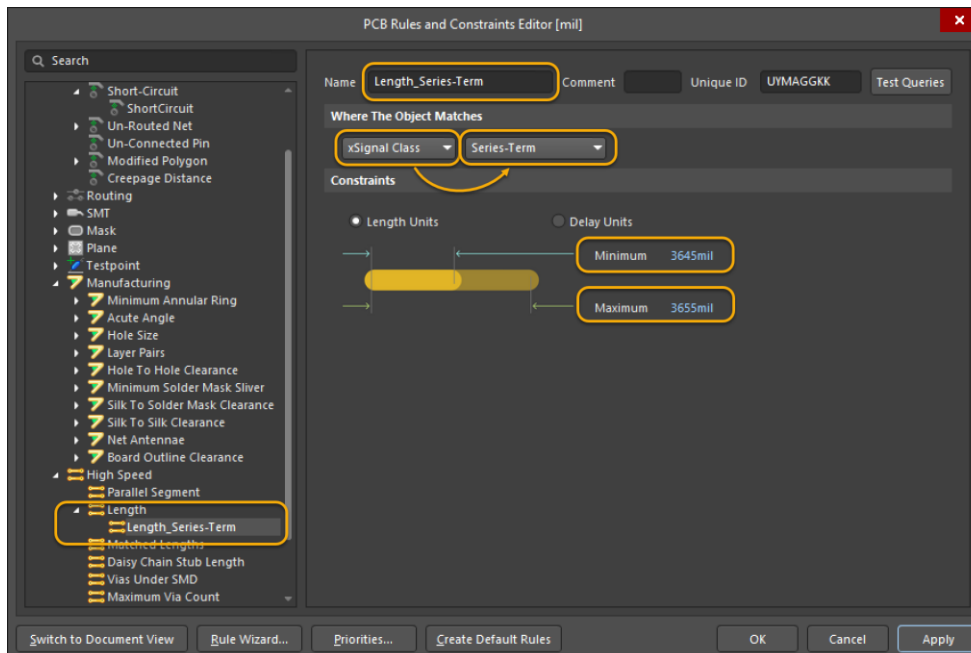

Figure 10. Length rule for the Series-Term xSignal class members
16. Using Figure 10 as reference, we will create a new design rule and change its settings: